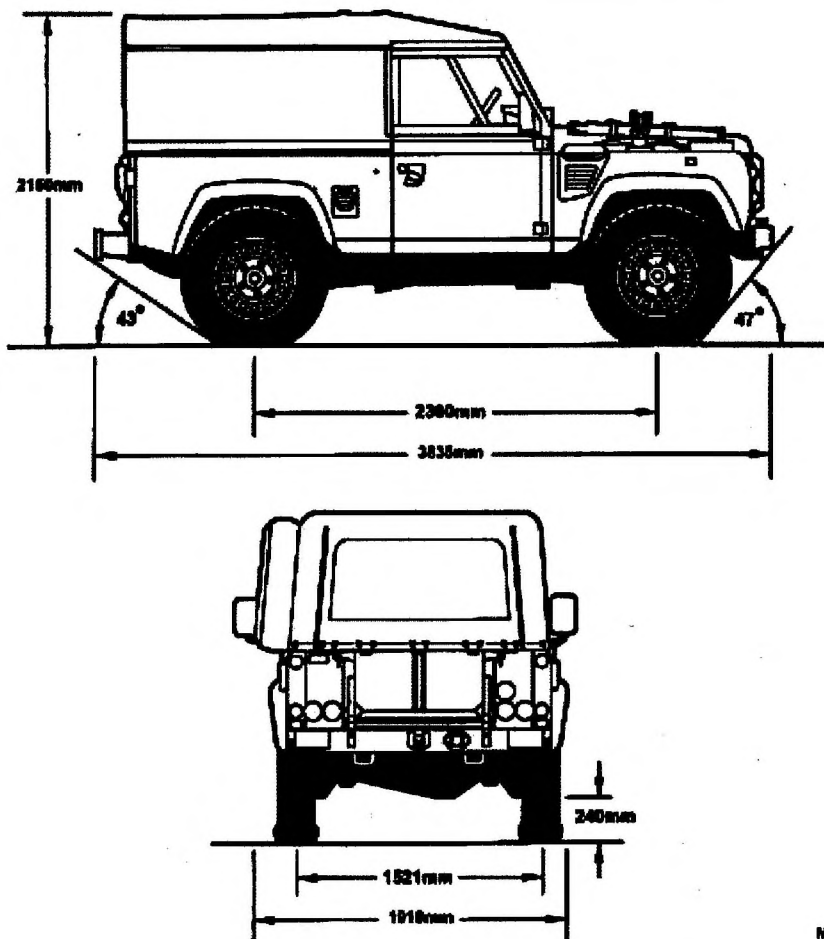

Fig 1 Truck Utility Light (TUL) dimensions
6.1 Table 2 and Fig 1 identify the dimensions for the Truck Utility Light (TUL).